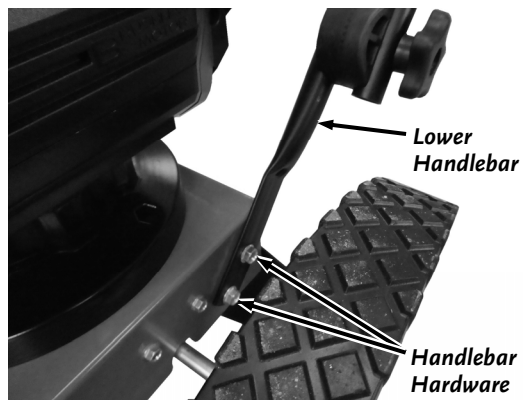

Figure 3
1. Check the tightness of the four Bolts that secure the Lower Handlebar to the Frame using a 1/2" Wrench (**Figure 3**).